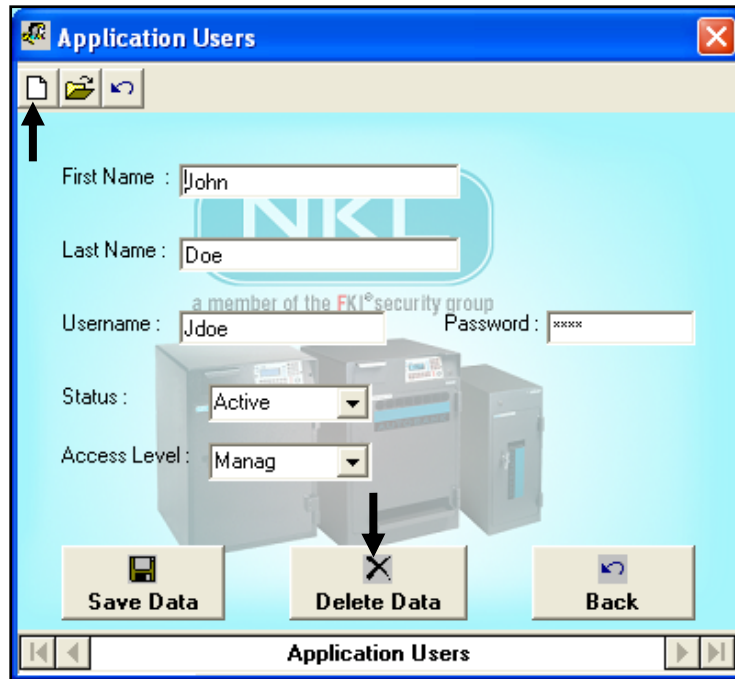

Fig. 7.4
- 4) To edit or delete an existing user, first use the scroll arrows at the bottom of the window until the user you want to edit is visible. Select the **Edit User** button at the top of the window to edit a user, or select the **Delete Data** button at the bottom of the window to permanently delete that particular user (Fig. 7.4).